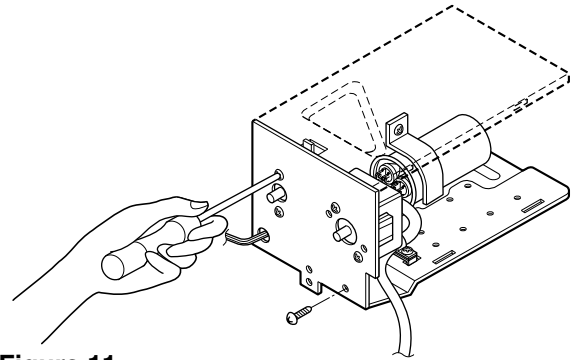

Figure 11
6. Re-install the components by refereing to the above removal procedure. (See Figure 11)